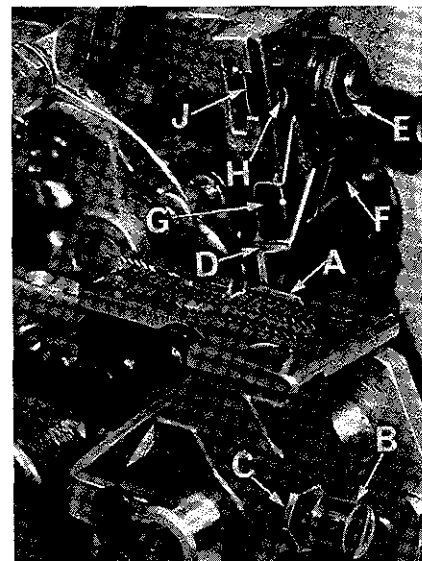

Fig. 13
Replace lower knife holder assembly. Lower knife (A, Fig. 13) should be set with cutting edge flush with throat plate surface. Adjustments are made with hexagonal head screw which holds lower knife. Lower knife is spring pressed against upper knife, so no lateral adjustment is necessary when width of trim is changed.
Replace upper knife assembly. Clamp upper knife (D, Fig. 13) in position, setting nut (E) to hold clamp (F) in its most clockwise position against upper knife. At bottom of its stroke, front cutting edge of upper knife should extend not less than  $1/64$  inch below cutting edge of lower knife. The chain guard (G) should be set down against the upper knife and slightly back from the cutting edge.